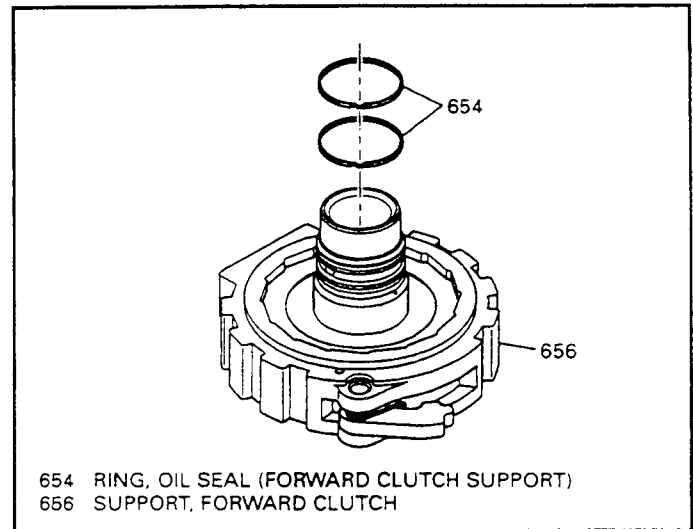

Figure 109
1. Install two new seals (654) onto the forward clutch support as shown in Figure 109.